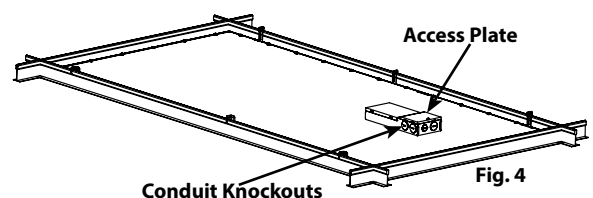

Fig. 4
5. Loosen **Access Plate Screw** and remove the **Access Plate**. Knock out appropriate **Conduit Knockouts** on the **Access Plate** to route input conduit. Use appropriate conduit connectors as required by code (Fig. 4).
5. Loosen **Access Plate Screw** and remove the **Access Plate**. Knock out appropriate **Conduit Knockouts** on the **Access Plate** to route input conduit. Use appropriate conduit connectors as required by code (Fig. 4.).